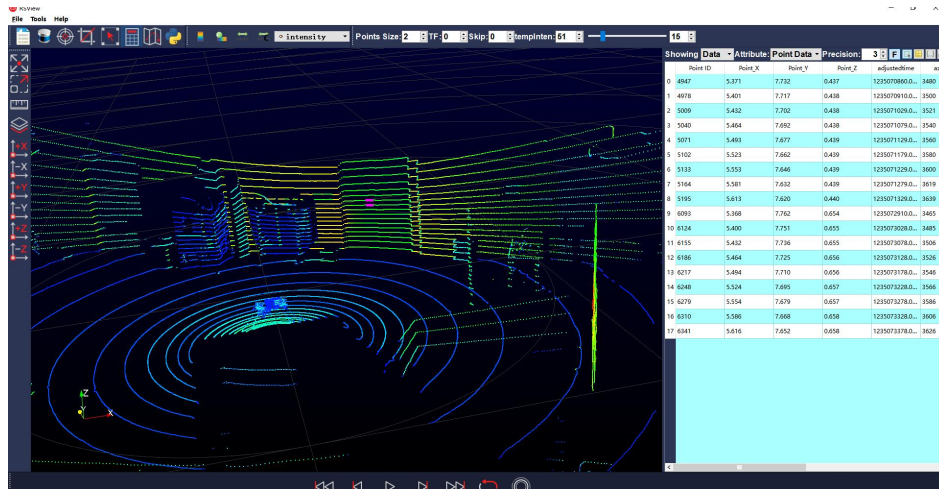

Figure C-13 RSView List Selected Points Tool
9. In the 3D rendered data pane, use your mouse to draw a rectangle to frame some data points. The data of these points will immediately populate the data table and the selected data points will turn pink in the data pane (Figure C-13).